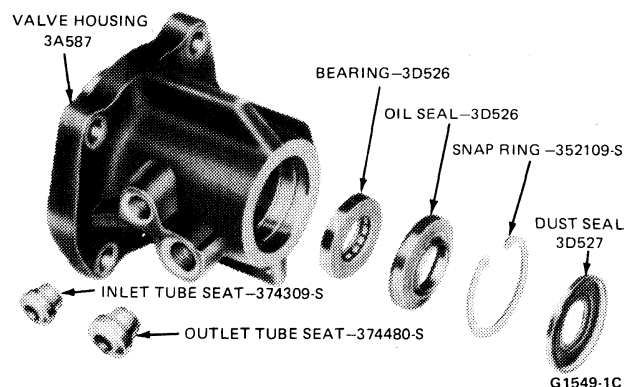

FIG. 7 Valve Housing Disassembled
1. Remove the dust seal (Fig. 7) from the rear of the valve housing using Tools T59L-100-B and T58L-101-A. Discard the seal.